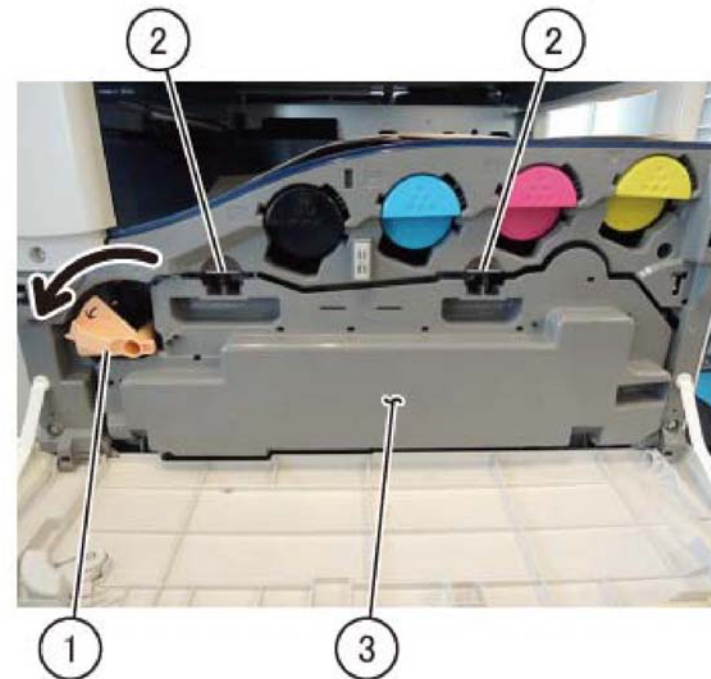

Figure 1 Waste bottle removal
2. Turn the retract handle (1) in a counterclockwise direction, Figure 1.
3. Push down the two levers (2) and remove the waste bottle (3).